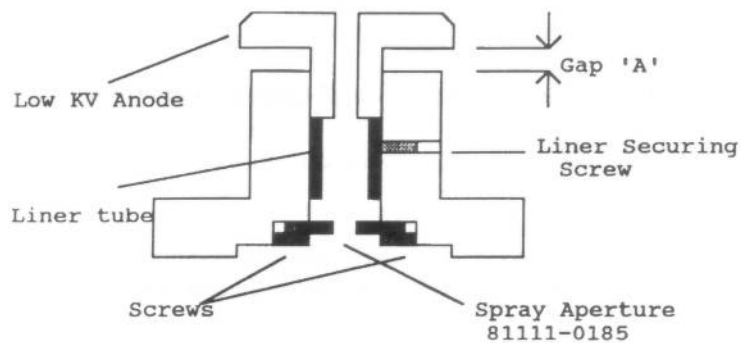

Figure 5.4
- (a) Place the low kV anode into the anode support and measure the Gap 'A' between the top of the anode support and the bottom of the anode (see Figure 5.4).